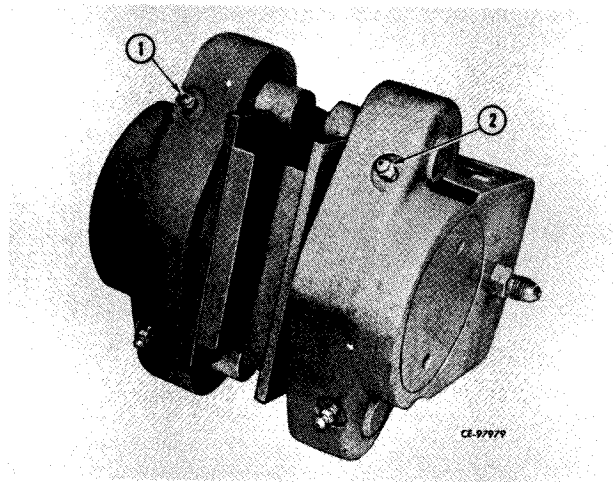

Figure 13-18
3. Bleeding the brake caliper remains. Note the point at which the brake line joins the caliper housing. Bleed the screw highest and farthest from this point first (1, Fig. 13-18). The remaining high screw (2) is next. Procedure is the same; build up pedal pressure; open screw; close screw when pedal is at bottom of stroke. Repeat procedure at each bleed screw until fluid, free of bubbles, is ejected from the screw. Check fluid level in reservoir often.